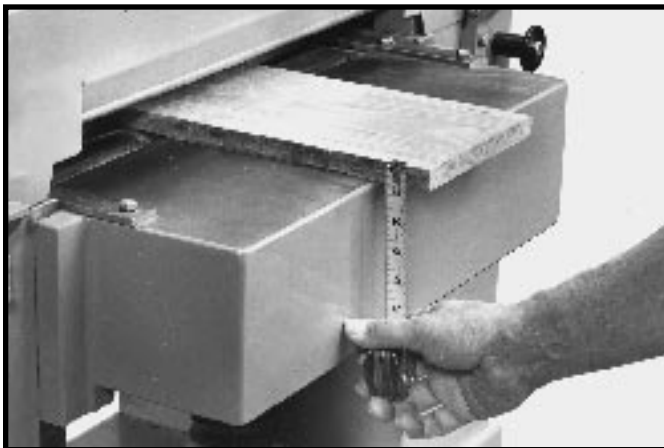

Fig. 52
2. Measure the thickness of the planed end of the stock as shown in Fig. 52. If an adjustment is necessary, loosen screw (A) Fig. 53, adjust pointer (B) and retighten screw (A).